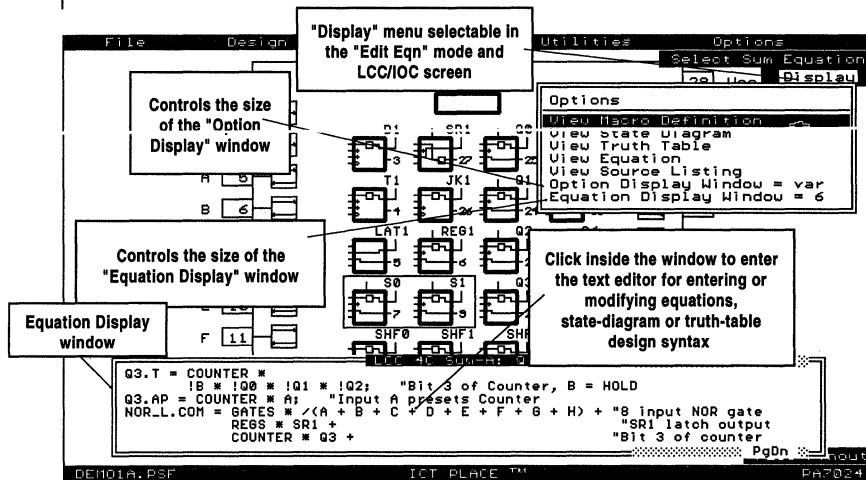

Figure 10-29, "Display" menu in "Edit Eqn" mode
The PSF Text Display Windows are the windows which can be opened to display the logic description of the current design, such as equations, state diagrams, truth tables, macro definitions, and etc. The two types of windows in the PLACE software are the Equation and Option Display windows. An Equation Display window is opened by clicking the left mouse button on any SUM or AND node (gate), state diagram block and truth table marker (indicated by Tn where n = 1 to 10). This window is always located at the bottom of the screen. Refer to Figures 10-29 through 10-31. On the other hand, the Option Display window is located at the top of the screen and is opened from the "Display" menu. The "Display" menu is selectable in the "Edit Eqn" mode, LCC/IOC screen for the PEEL Arrays, and IOC screen for PEEL Devices. See Figures 10-29 and 10-30.
- ❑ The second method is to use the last two options in the "Display" menu (Figure 10-29). Click at either option to advance the number of lines for the window. This number will be used the next time the window is opened. In addition, the selection "var" ("variable") is available for both these options. This selection (illustrated by "Option Display Window = var" or "Equation Display Window = var") allows the size of the window to be dependent on the type of design syntax selected. The criteria for setting the "var" window size are: